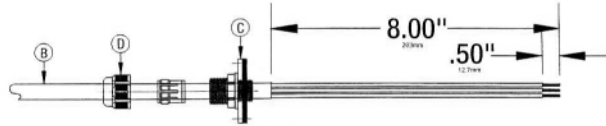

FIGURE 2
1. Prepare supply cord as shown in figure 2. Cord must be rated for minimum 90°C 16/3 SOW-A.
2. Install strain relief (A) to cord (B) as shown. See Fig. 2. Engage strain relief (A) to cover (C). Tighten to ensure gasket seal is in contact with cover (C). Then tighten compression cap (D) to secure cord.
3. Insert supply cord (B) to housing hole (E) then pull end of cord back out through opening (F).